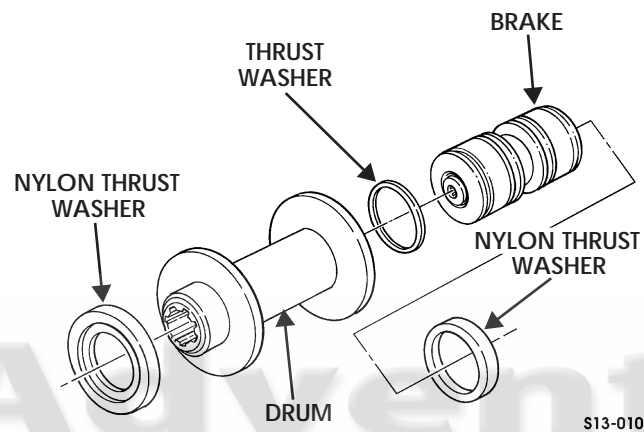

Figure 13-18: Thrust Washers and Brakes
16. Apply grease to drum bushings, seals, brake, and output spline (Figure 13-18).